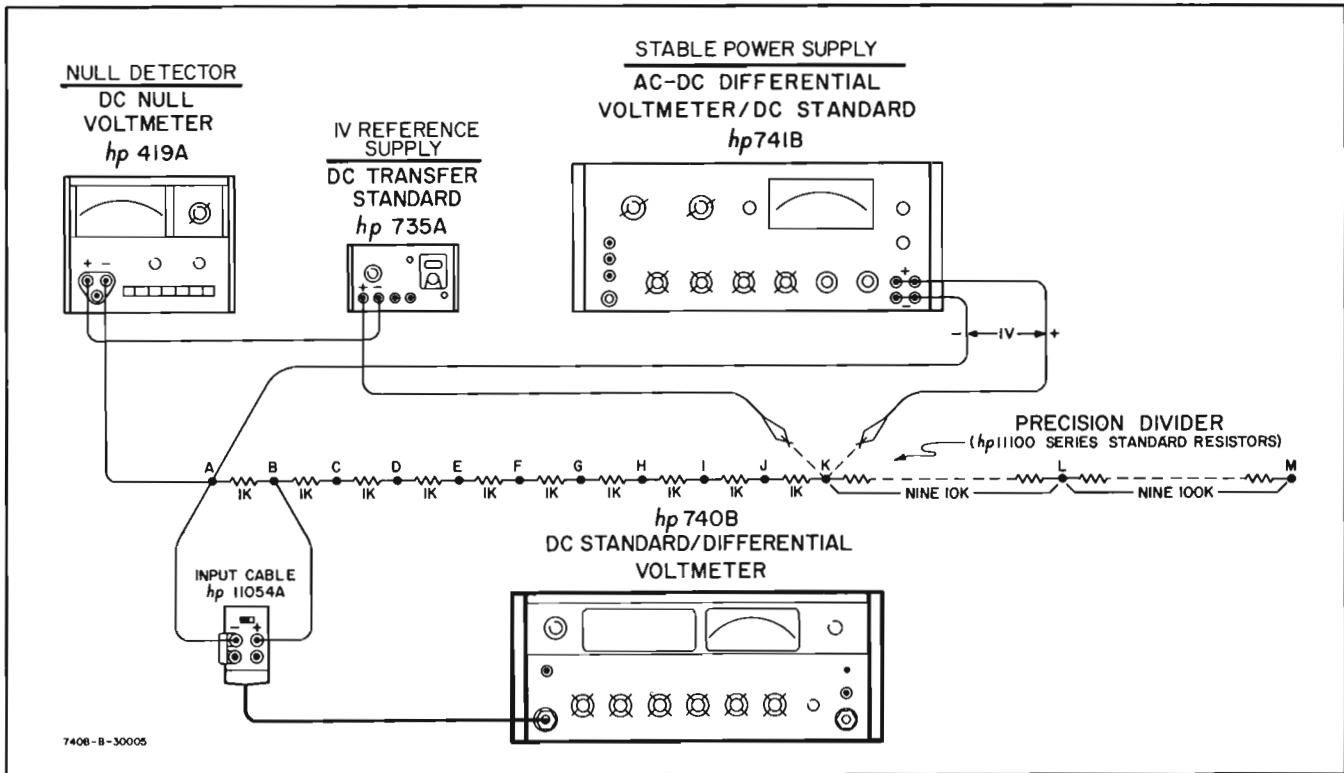

Figure 5-9. ΔVM and VM Accuracy Test, 1 mV - 100 mV
- o. Reconnect the test setup as shown in Figure 5-9. Do not connect the reference supply and power supply + leads yet.